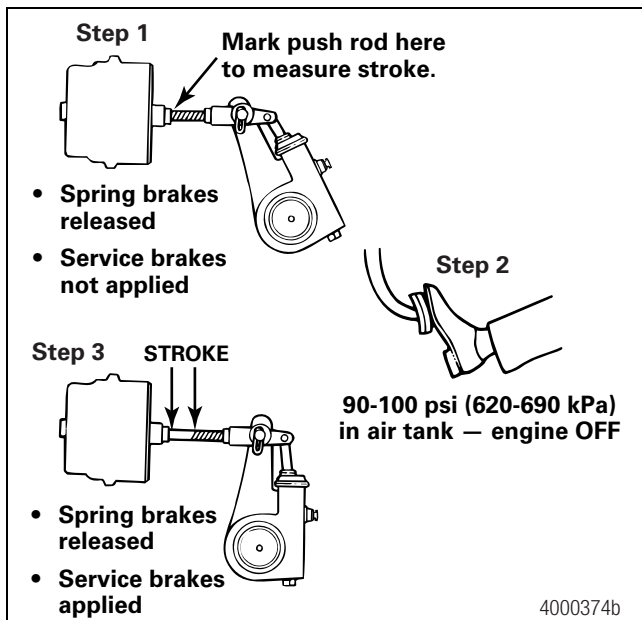

Figure 7.12
3. With the brakes released, mark the push rod where it exits the chamber. Measure and record the distance. Have another person apply and hold the brakes on full application. Figure 7.12. Hold the ruler parallel to the push rod and measure as carefully as possible. A measurement error can affect CVSA re-adjustment limits. CVSA states that "any brake 1/4-inch or more past the re-adjustment limit, or any two brakes less than 1/4-inch beyond the re-adjustment limit, will be cause for rejection."
4. Measure the push rod travel or adjusted chamber stroke from where the push rod exits the brake chamber to your mark on the push rod. Measure and record the distance. Figure 7.12.